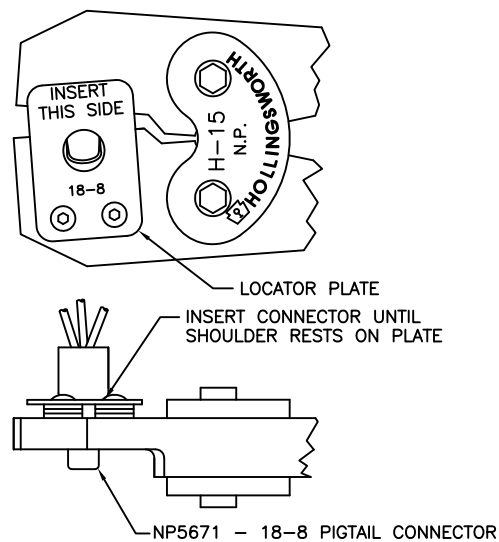

FIG. 1
Both the H15 and the H38-15 come equipped with a locator to assist in the correct positioning of pigtail connectors for crimping. (See Fig. 1)
1. Inset the pigtail connector through the hole in the locator plate, making sure that the shoulder of the connector is resting on the locator plate. (See Fig. 1)
3. Insert the stripped combination of wires into the connector. (See Fig. 1)